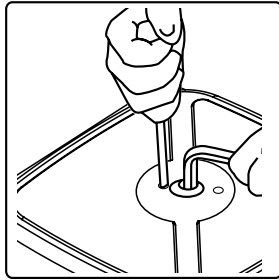
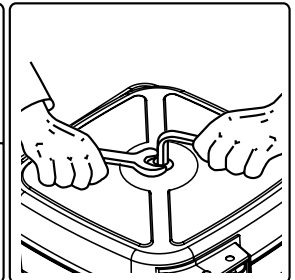

fig. 4b
fig. 5b
2. Turn the hose reel upside down and insert a hexagonal wrench to hold back the shaft. Loosen the two screws (part numbers 500110 and 500111, fig 4b) or the nut (Part nr 500115 and 500116, fig 5b) and gently turn the wrench clockwise to unload the spring.